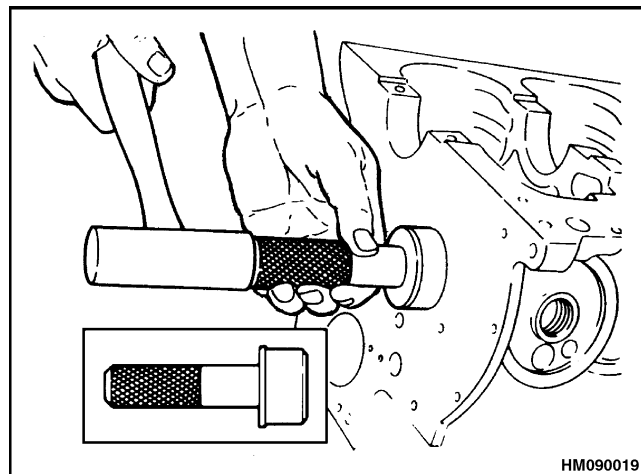

Figure 34. Camshaft Bearings Replacement
3. Install the head of the special tool on the end of a driver. Drive the front and rear camshaft bearings out of the block bore. Drive inward, toward the center of the engine block. See Figure 34.
NOTE: A special tool is required to install the front and rear bearings. See Figure 34.
1. Using the special tool shown in Figure 34, align the oil holes and drive the front and rear camshaft bearings inward, toward the center of the engine block.